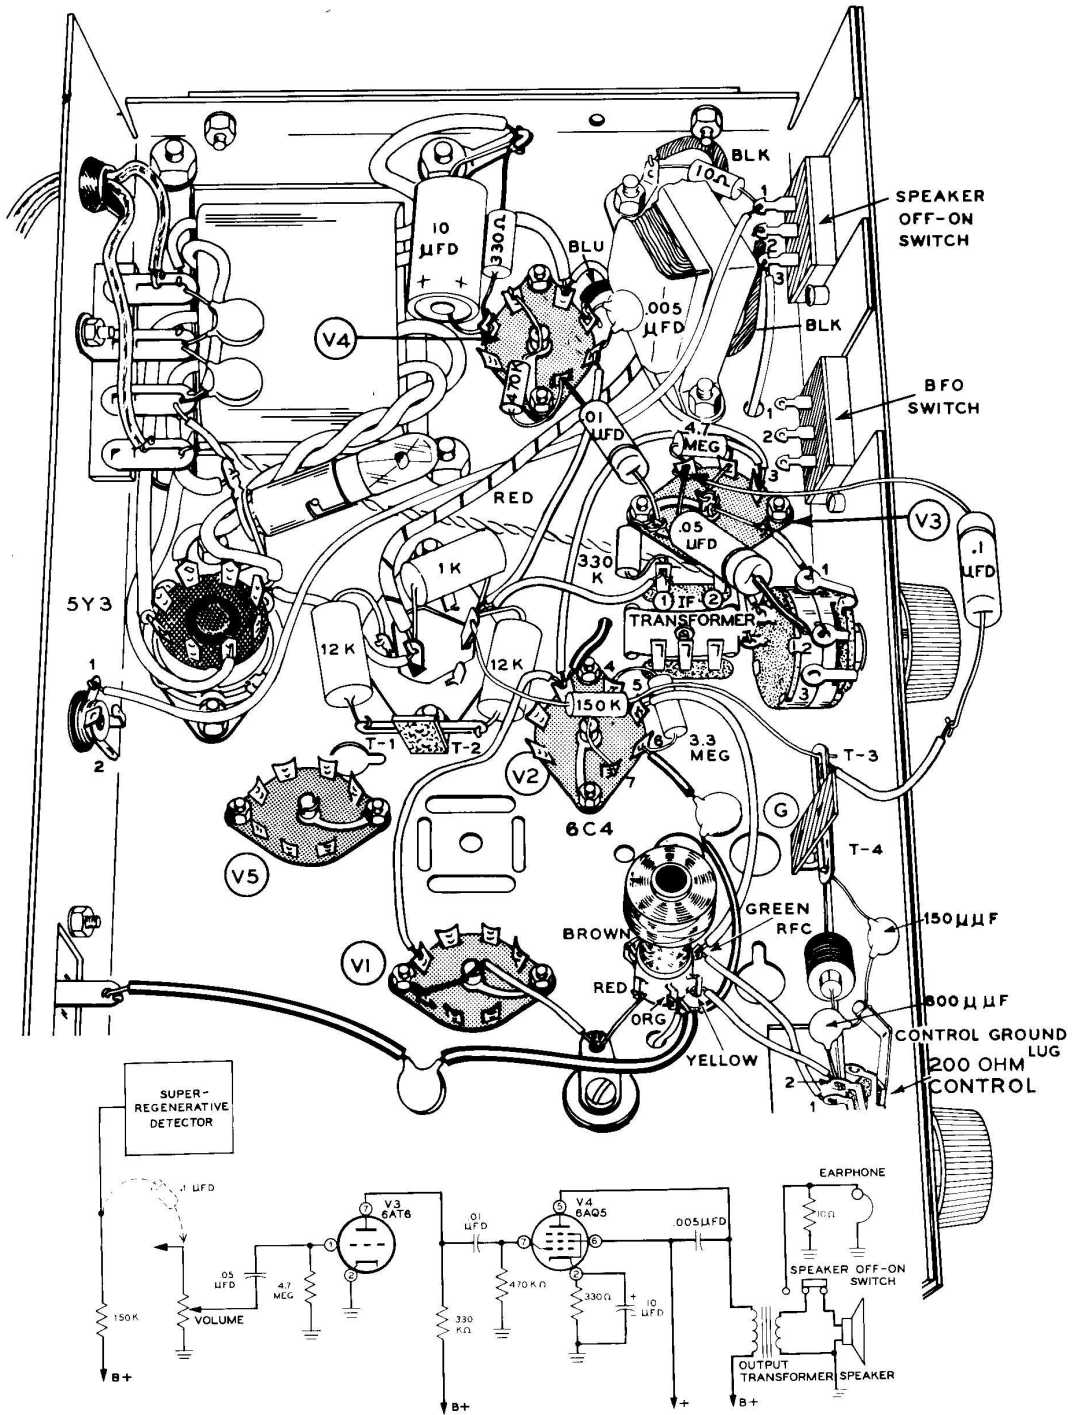

Figure 4H
Refer to Figure 4H for the following steps.
- () Mount 7-lug tube socket V5, using two 3-48 screws and two 3-48 nuts. Be sure to mount the socket so that the pins face as shown in Figure 4H.